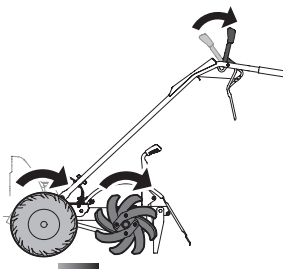

Figure 20
- c. While driving in reverse the tines will also rotate in reverse. See Figure 20.
After every 10 operating hours, oil or grease the lubrication points shown in Figure 20.